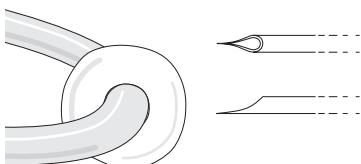

Fig. 23—Pipette has a sharp tip
5. The resulting tip (Fig. 23) has a very sharp point for clean cell penetration.